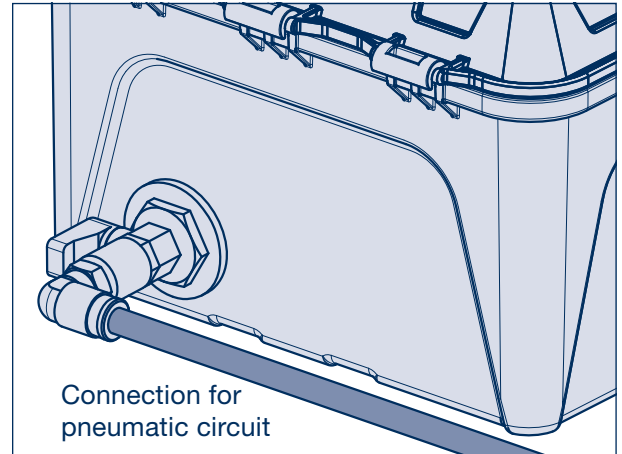

Figure 31
- [1] For axles with air suspension, connect supply lines (\varnothing 8 x 1 mm PA line) to the AirSave Control Box (Figure 31) directly at the air tank of the trailer air suspension.